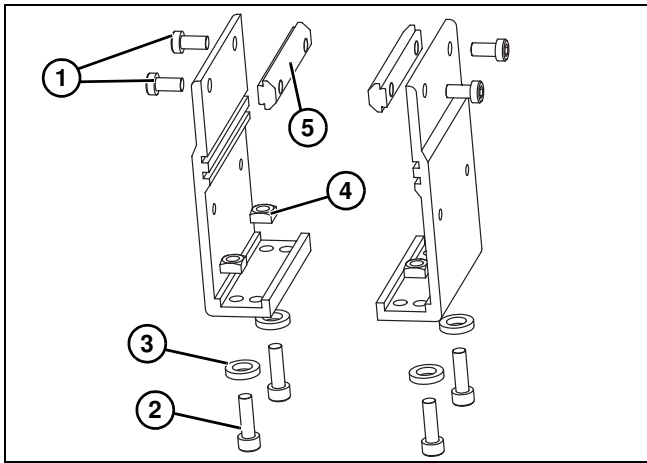
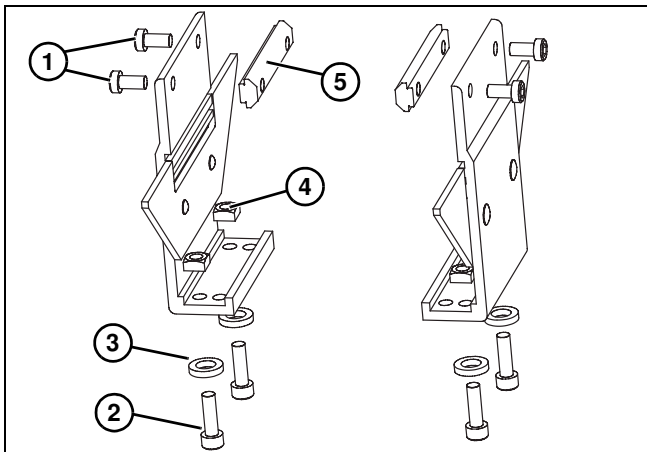
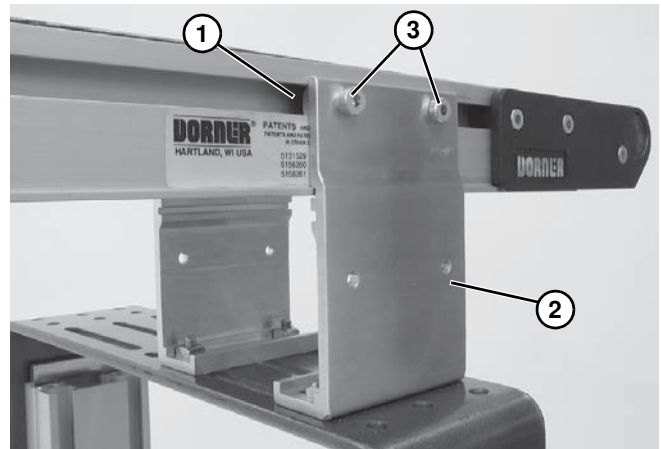

Figure 9
Figure 10
Figure 11
1. Locate brackets. Exploded views shown in Figure 9 & Figure 10.
2. Remove screws (Figure 9, item 1 & 2) & (Figure 10, item 1 & 2), washers (Figure 9, item 3) & (Figure 10, item 3), nuts (Figure 9, item 4) & (Figure 10, item 4), and T-bars (Figure 9, item 5) & (Figure 10, item 5) from brackets.
3. Insert T-bars (Figure 9, item 5) & (Figure 10, item 5) into conveyor side slots (Figure 11, item 1). Fasten brackets (Figure 11, item 2) to conveyor with mounting screws (Figure 11, item 3).
4. Fasten brackets to support stand with mounting screws (Figure 9, item 2), washers (Figure 9, item 3) and nuts (Figure 9, item 4).